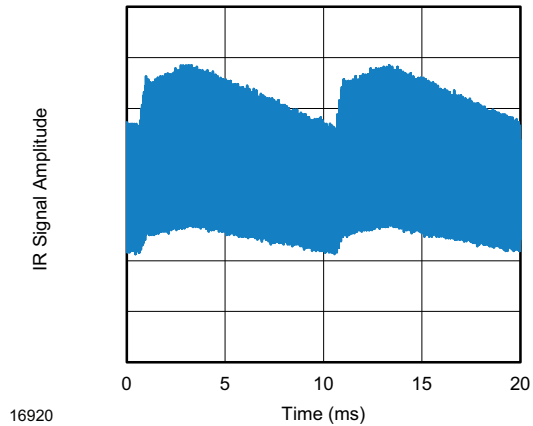
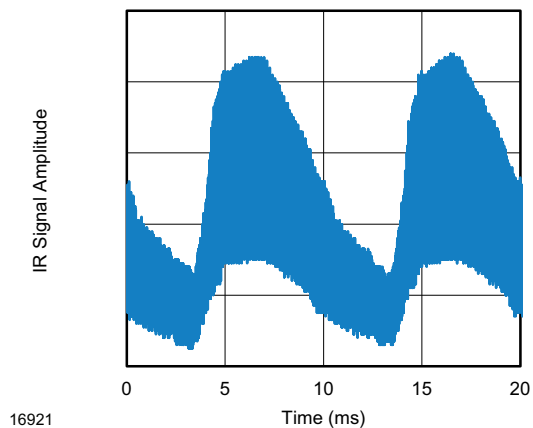

Fig. 14 - IR Disturbance from Fluorescent Lamp With Low Modulation
Fig. 15 - IR Disturbance from Fluorescent Lamp With High Modulation
- Strongly or weakly modulated pattern from fluorescent lamps with electronic ballasts (see Fig. 14 or Fig. 15)
| Suppression of interference from fluorescentlamps                            | Fig. 14 and Fig. 15             | Fig. 14 and Fig. 15              |